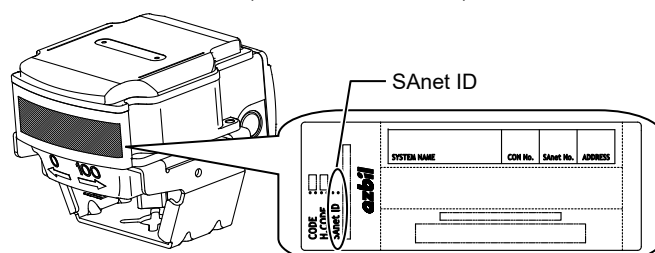

Figure 14. SAnet ID on the product code label
2. With Data Setter or PC-MMI, enter the SAnet ID (on the product code label) and address number to set. The product code label is attached to the back face of the actuator, as shown in Fig. 14.
In the manual operation mode, even when this product has not been connected via SAnet yet, the operations shown in Table 2 can be performed and checked. Follow the procedure below for the operation check. For the locations of the service pin switch and the rotary switch, see Fig. 14.